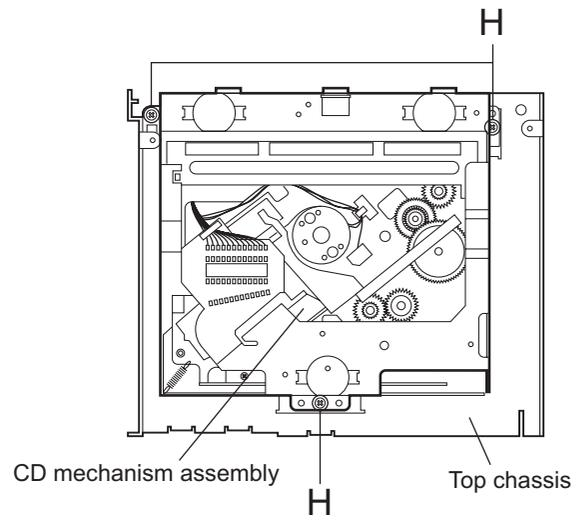

Fig.9
**(See Fig.9)**
- (1) Remove the three screws **H**.